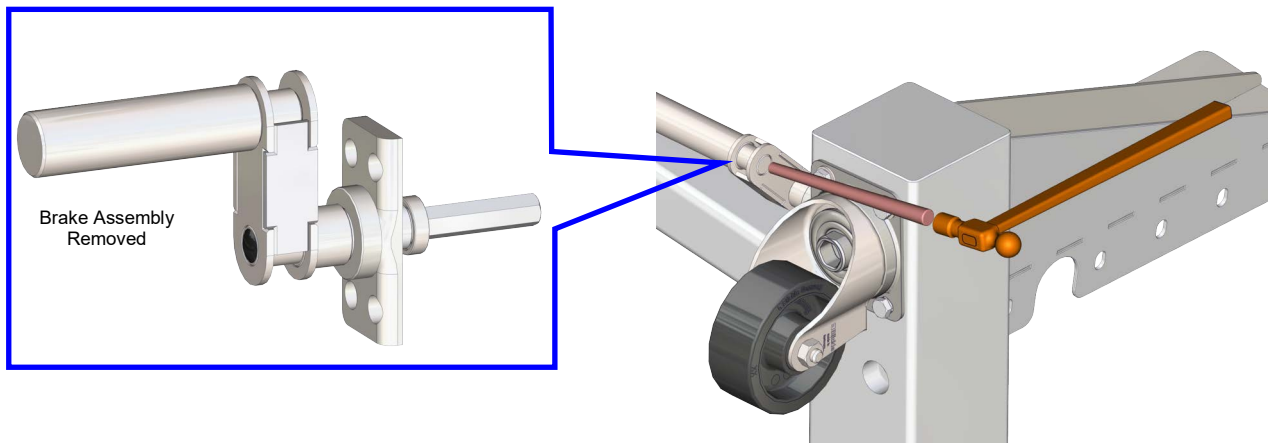

Fig 3.8 Remove Brake Lever Assembly
It may necessary to use a hammer and drift (Fig 3.8), to aid removal of the brake lever.
- Remove 4 off M8x20 bolts complete with washers that fasten castor to base frame (Fig 3.8).
- Fit castor using 4off M8x20 bolts complete with washers, tighten (Fig 3.8).
- Align brake assembly with hole in base frame, insert brake operating bar through hole in side of base frame (Fig 3.8).